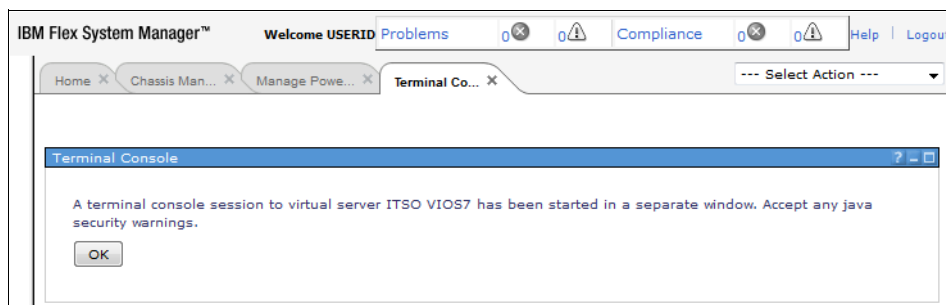

Figure 7-59 Validating with the FSM
- The Terminal Console tab that opened on the FSM can be cleared by clicking **OK** (as shown in Figure 7-59) to return to the virtual server table (or the tab from where you started the console).